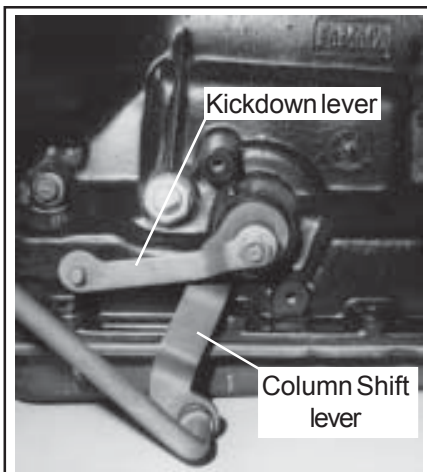

Figure 1
**Powerglide:** Disconnect throttle pressure lever at transmission (See Fig. 1).
**Column Shift Models:** Connect rod or cable to shift lever on transmission. (See Fig. 1) Snap rod into grommet retainers by squeezing rod and lever together with a pair of pliers. Connect rod or cable to clip retainer levers and install clip.
**STEP 25.** Connect kickdown linkage. (See Fig. 1 & 2) Connect rod or cable kickdown lever and install clip. Kickdown linkage should work smoothly with a positive spring return action.